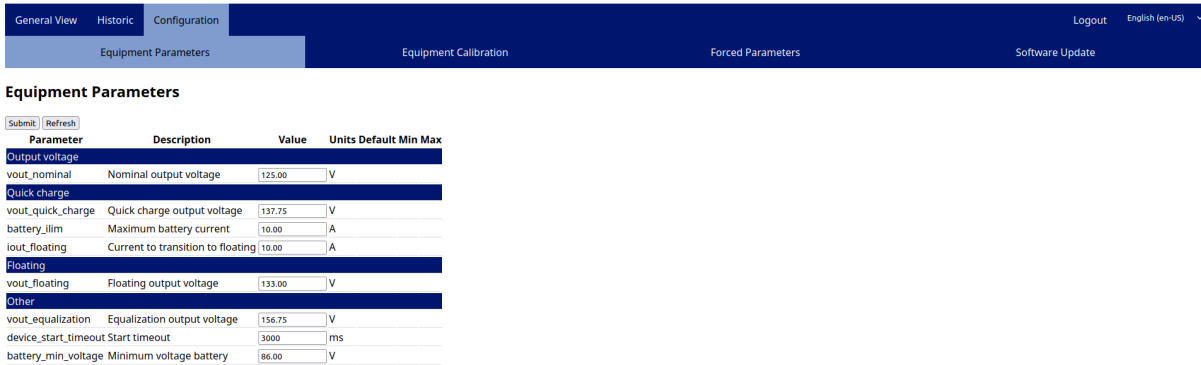

Figure 40 - Web - Configuration - Equipment Parameters
In the configuration section, Figure 40 is displayed. Three sub-sections can be accessed from this page. The function and characteristics of the sub-sections shown in the website overview are detailed below.
- Equipment parameters (Figure 40): Displays configurable system parameters for charger operation.